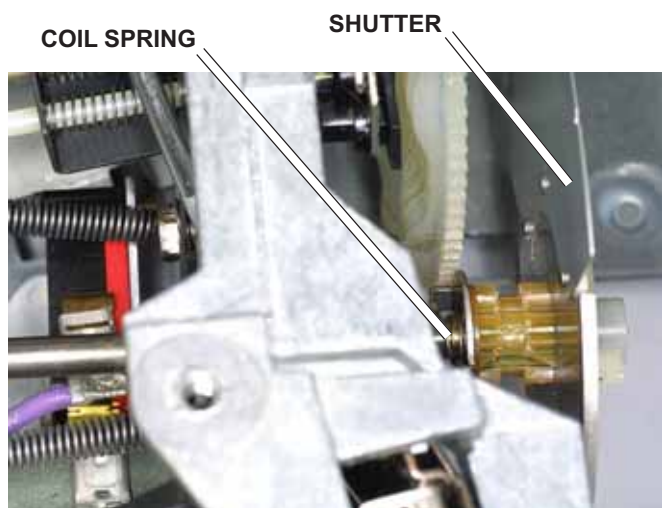

FIG. MD19 After freeing the shutter-drive shaft, lift out the old shutter. Send in the shutter for the exchange rate.
3. Lift out the shutter, Fig. MD19. Watch for the coil spring that fits over the front end of the shutter-drive shaft.